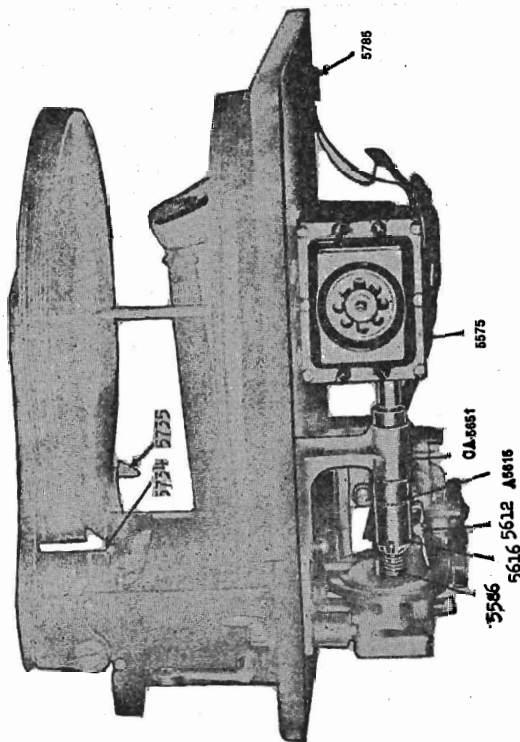

Fig. 4
*Fig. 4 shows the circuit used. As is seen, it consists essentially of two motors, one for turning the volume control and the other the tuning condensers, and means for controlling the direction and amount of rotation of the motors from a remote point. Each of the motors has two field windings, poled in such way that switching from one to the other reverses the direction of motor rotation.
* Study of fig. 4 reveals that when any one of the station buttons is pressed, the circuit is completed through the contact stud connected to it and the station-selector motor revolves, turning the tuning condensers and the split brass disk fastened to the condenser shaft. The motor continues to drive the condenser shaft (through a friction drive) until the insulating slit in the brass disk comes directly under the contact stud and breaks the circuit. When the slit is under the contact stud, the tuning condensers are in proper position for reception of the station. Should the momentum of the motor be sufficient to carry the disk past the point where the stud and slit coincide, the stud